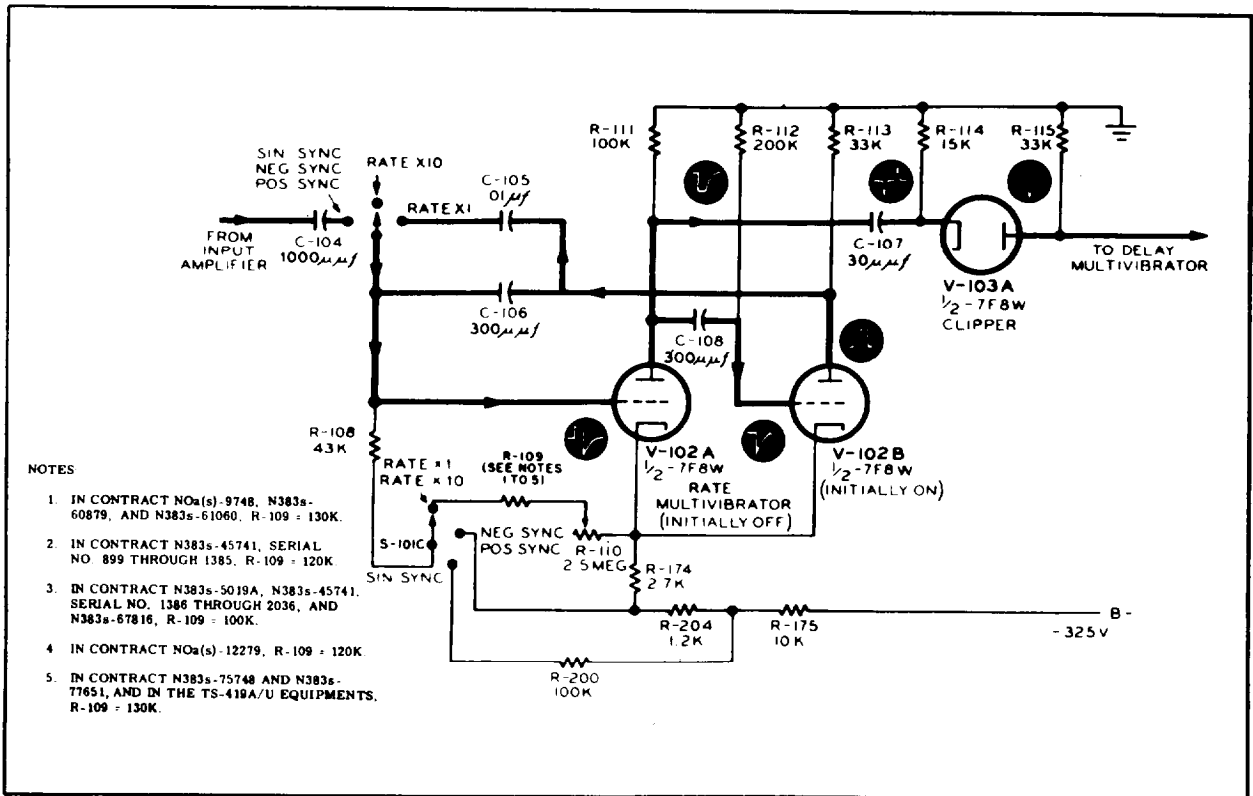

Figure 3-6. Signal Generator TS-419/U, Rate Multivibrator, Simplified Schematic Diagram
(2) POSITIVE PULSE SYNCHRONIZATION. – Positive pulses follow the same path as sine waves through V-101 and the action is identical with that described for sine waves in paragraph 5.b.(1), this section.
(3) NEGATIVE PULSE SYNCHRONIZATION. – Negative pulses are applied to the grid of V-101B without passing through V-101A, since they are already of the proper polarity to cut off V-101B. The remainder of the action is similar to that described for sine waves in paragraph 5.b.(1), this section.
c. RATE MULTIVIBRATOR. —The rate multivibrator V-102 (figure 3-6) is operated either as a one-shot multivibrator when it is to be synchronized by the output of the input amplifier V-101, or as a free-running multivibrator when the pulse repetition rate is to be determined internally.
(1) SYNCHRONIZED OPERATION. — Initially, V-102A is not conducting, since the grid is returned by way of R-108 and S-101C to a negative bias developed across R-174 by the flow of cathode current from V-102B. When V-102A is drawn into a state of conduction, due to the application of a positive pulse on its grid, a negative output pulse is developed across plate resistor R-111. This output pulse is applied simultaneously to the RC circuit, C-107 and R-114, and through C-108 to the grid of the normally conducting tube V-102B, thereby cutting it off. The positive pulse resulting at plate resistor R-113 of V-102B is coupled through C-106 to the grid of V-102A, thereby enhancing the firing action originally due to the input triggering pulse. A return triggering action restores the multivibrator to its original condition when C-108 has discharged sufficiently through R-112 to permit renewed conduction in V-102B. The negative output pulse occurring across plate load resistor R-111 of V-102A is then differentiated by C-107 and R-114. The resulting negative pip is passed by V-103A to V-104, but the positive pip is blocked, because of the too-high cathode potential with respect to its plate.
(2) FREE-RUNNING OPERATION. -- During free-running operation, the grid of V-102A is returned to the cathode through R-108, S-101C, R-109, and R-110. When power is applied, V-102B tends to draw a heavy plate current, causing a drop across R-113 which is passed to the grid of V-102A through capacitor C-106. V-102A is cut off and its plate voltage rises. This increase is passed back to the grid of V-102B through C-108, thereby enhancing the firing action. When the charge leaks off C-106 through R-108, R-109, and R-110, V-102A begins to conduct, its plate voltage drops, and this charge is passed by C-108 to the grid of V-102B, thereby cutting it off and causing its plate voltage to rise. This rise is passed back to the grid of V-102A through C-106, thereby reinforcing the firing action; however, C-108 is soon discharged by R-112, and V-102B again begins to conduct. The cycle then repeats after a time interval determined by the sum of the time constants due to C-108 and R-112 and C-106 and R-108, R-109, and R-110. The pulse repetition rate is varied by changing R-110 and the range is changed further by connecting C-105 in parallel with C-106 by means of S-101B. The longer the time constant (as by increasing either R or C) the longer the cycle takes and consequently, the fewer the cycles that occur each second and the lower the repetition rate.